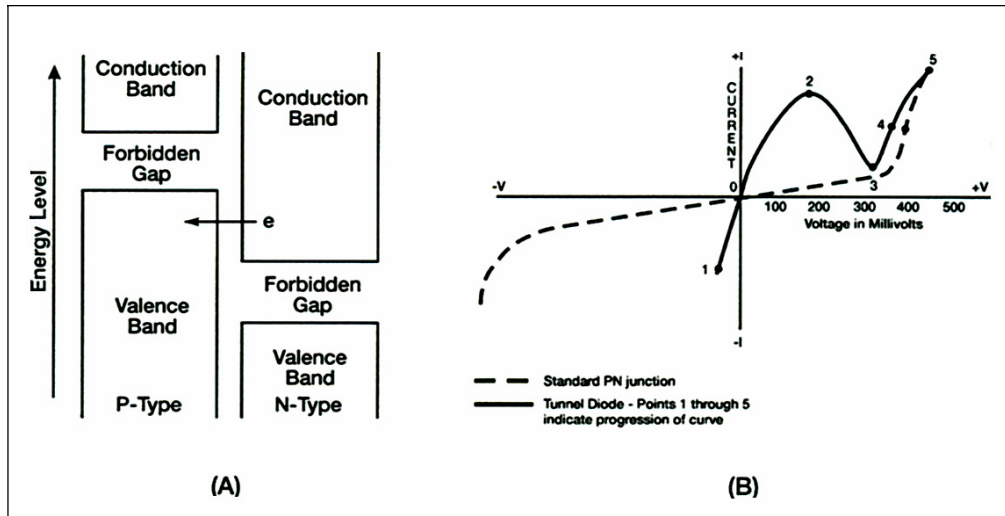

Figure 3-7. Tunnel Diode Energy Diagram With 50 Millivolts Bias
3-21. Figure 3-7, view (A), shows the energy diagram of a tunnel diode with a small forward bias (50 millivolts) applied. The bias causes unequal energy levels between some of the majority carriers at the energy band overlap point, but not enough of a potential difference to cause the carriers to cross the forbidden gap in the normal manner. Since the valence band of the P-material and the conduction band of the N-material still overlap, current carriers tunnel across at the overlap and cause a substantial current flow. The amount of current flow is marked by point 2 on the curve in view (B). In view (A) the amount of overlap between the valence band and the conduction band decreased when forward bias was applied.